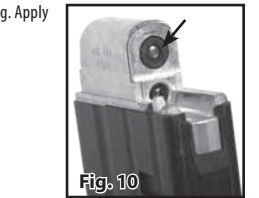

Fig. 11
4. Lift up the back end of the receiver until the barrel is perpendicular to the lower receiver (Fig. 11).